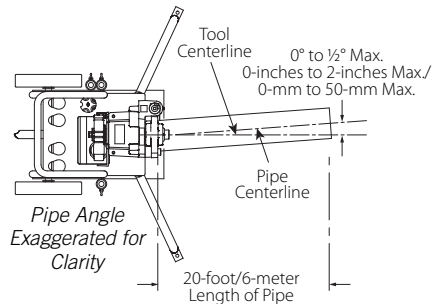

FIGURE 2 – TRACKING ANGLE
- b. When flare is excessive, right-to-left tracking must be kept to a minimum. It may be necessary to use less than $\frac{1}{2}^\circ$ for the tracking angle (see Figure 2).
- f. Position the pipe stand approximately 0 to $\frac{1}{2}^\circ$ to the left for the tracking angle. Refer to Figure 2 below.